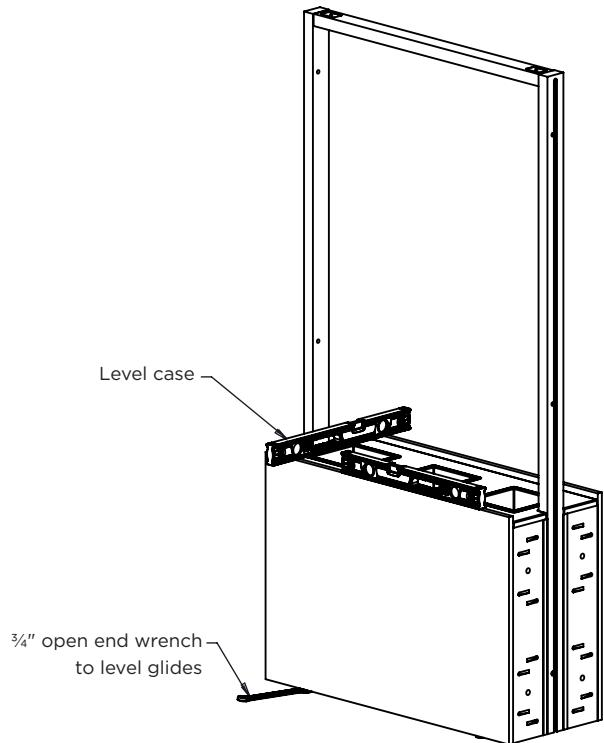

Figure 1A
1. Start with the middle unit in the ganging series. Position in the final install location and level unit with the glides. A 3/4" open end wrench can be used to adjust the glide. (**Figure 1A**)